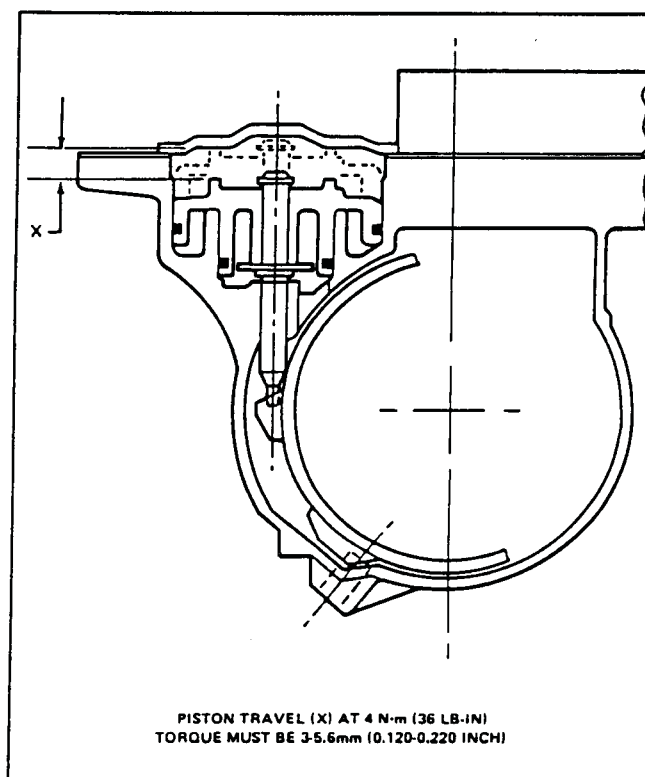

FIG. 57 Piston Travel
35. Using the above procedure, check the piston travel with the new selected piston and rod (if required) to make sure that the piston travel is between 3 and 5.6mm (.120 to .220 inch) (Fig. 57).